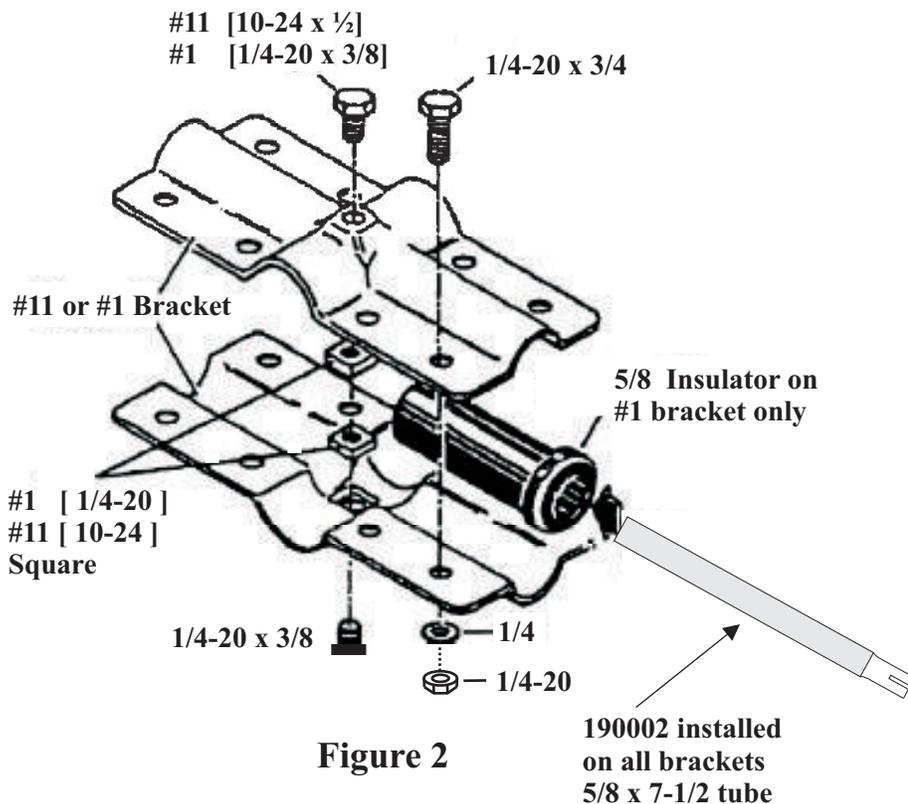
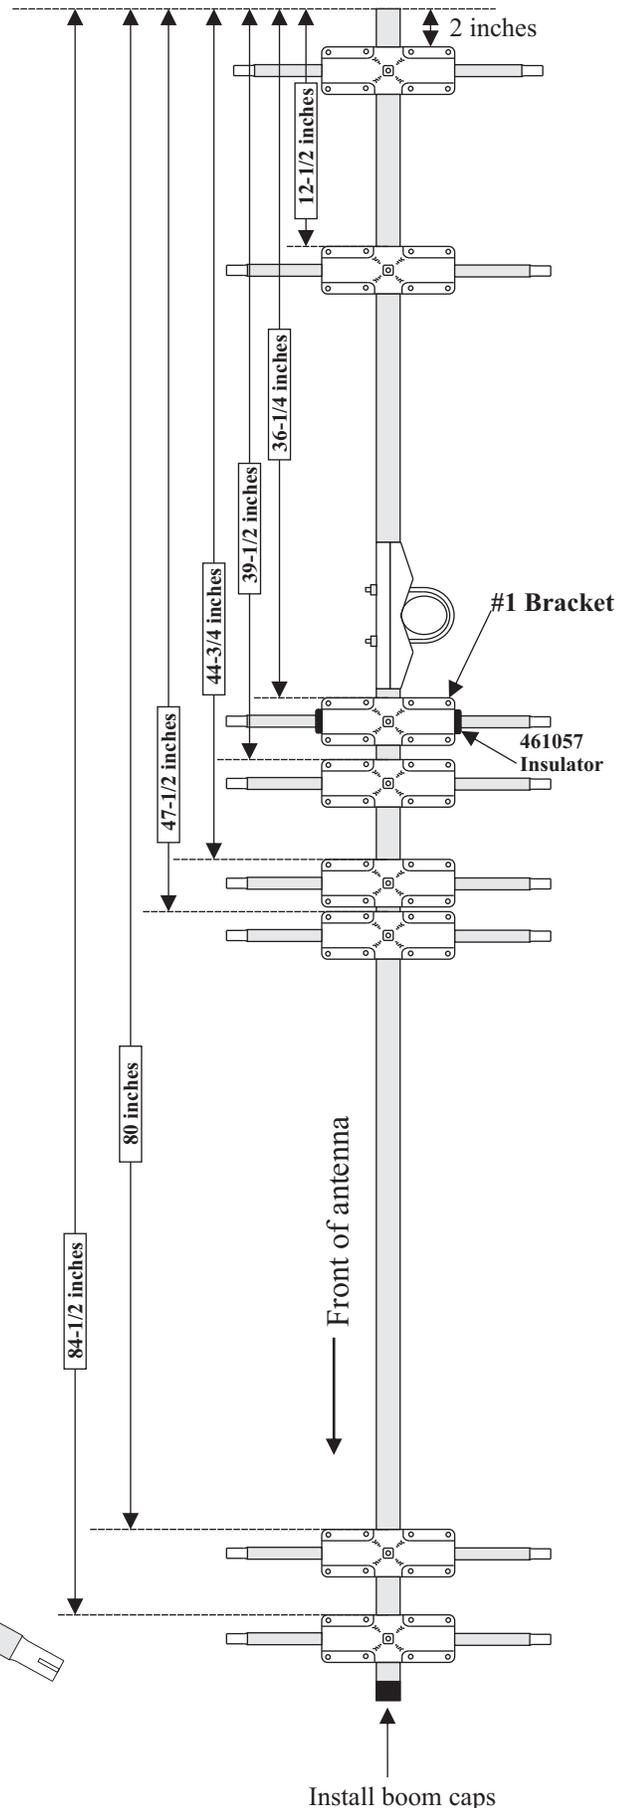

Figure 2
Figure 3
Assemble the brackets as shown in Figure 2 and locate them on the boom assembly as shown in Figure 3. It is easier to assemble the brackets on the boom at the correct location, rather than try to slide them on the boom. If you are going to leave this assembly unattended for more than 15 minutes, we suggest that you tighten the eight (8) bolts on each bracket, so that they do not vibrate off. Do not tighten the anchor bolts on the elements until the elements are completely installed and aligned. Mark the bracket location on the boom with a marker at the edge of the bracket instead of the center. This will ensure the mark is still visible when the bracket in is the correct spot. Start from the rear of the boom and work forward. The measurements are given in total inches from the rear of the boom. If you need the distance from each element to the next you may subtract the bracket measurements to obtain this value. Total distance is given for better accuracy in element placement. Distance between elements measurements will cause cumulative errors as each element is placed. Notice there are two different locking bolts for the brackets. The driven element bracket (#1) uses a larger 1/4-20 bolt and square nut.